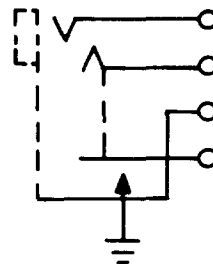

Fig. 9—510A Jack
2.09 510A: The 510A (Fig. 9) is a unit-type jack.